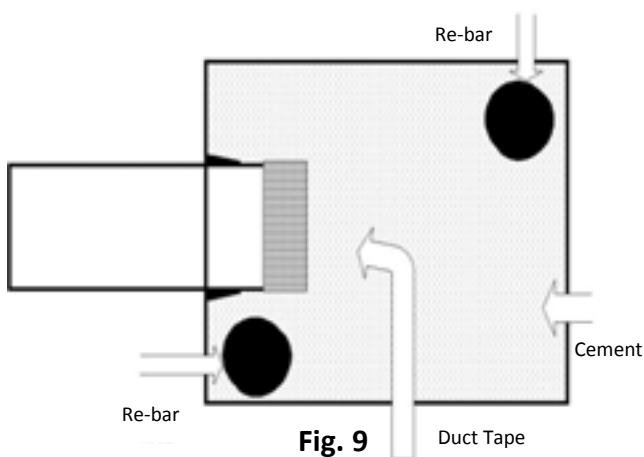

Fig. 9
**Step 1.** If Re-Bar is not being used, proceed to Step 2. For each corner, end and gate post, cut two pieces of #4 Re-Bar shorter than the post length. Drop two pieces into each post at opposing corners (Fig. 9).